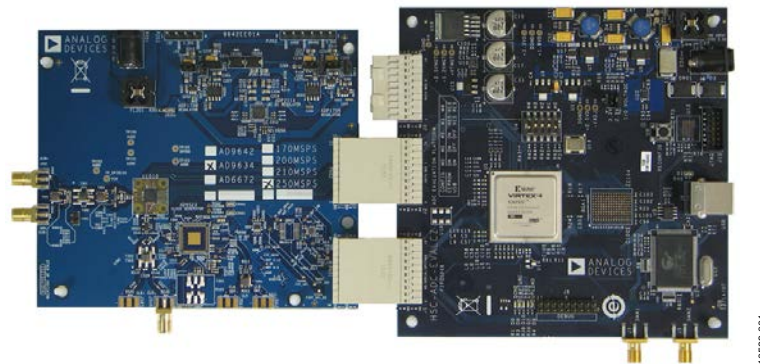
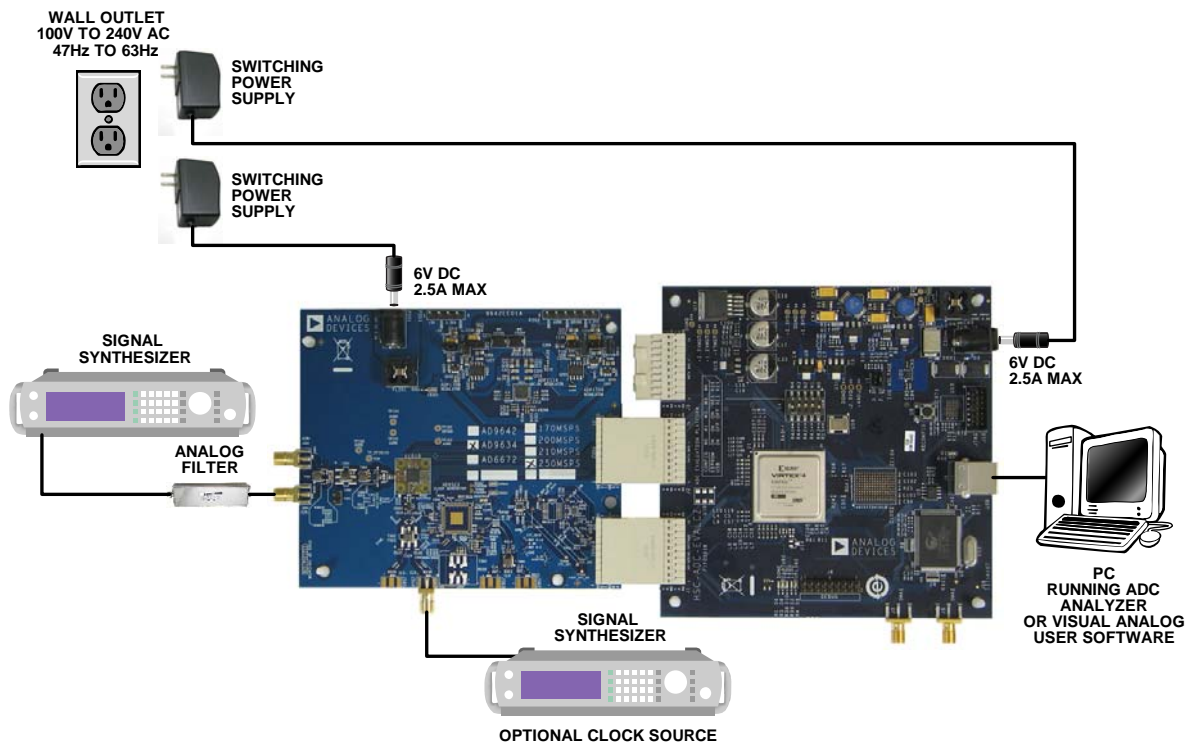

Figure 1. **AD9642, AD9634, or AD6672** Evaluation Board (on Left) and **HSC-ADC-EVALCZ** Data Capture Board (on Right)
Figure 2. Evaluation Board Connection
The AD9642, AD9634, and AD6672 evaluation board provides all of the support circuitry required to operate these parts in their various modes and configurations. Figure 2 shows the typical bench characterization setup used to evaluate the ac performance of the AD9642, AD9634, or AD6672. It is critical that the signal sources used for the analog input and the clock have very low phase noise (<1 ps rms jitter) to realize the optimum performance of the signal chain. Proper filtering of the analog input signal to remove harmonics and lower the integrated or broadband noise at the input is necessary to achieve the specified noise performance.
1. Connect the evaluation board to the data capture board, as shown in Figure 1 and Figure 2.